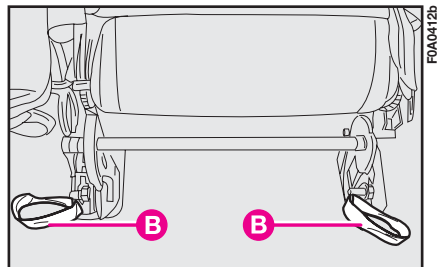

fig. 130
- pull the bands **B-fig. 130** and tilt the seat completely;